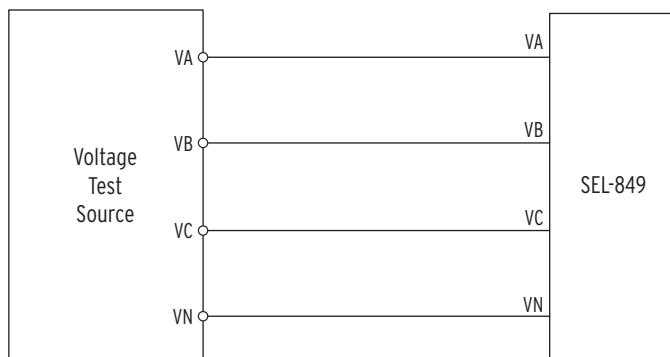

Figure 10.4 Wye Voltage Source Connections
- Step 2. Connect the voltage source to the relay, as shown in *Figure 10.4*. Make sure that $\text{DELTA_Y} := \text{WYE}$.